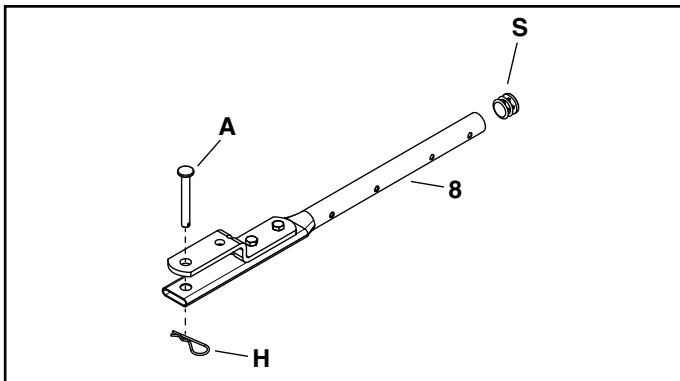

FIGURE 1
STEP 1: (SEE FIGURE 1)
- Insert a plug (S) into the end of the hitch tube (8).
- Install the hitch pin (A) in the hitch bracket and hitch tube and secure it with the hairpin cotter (H).